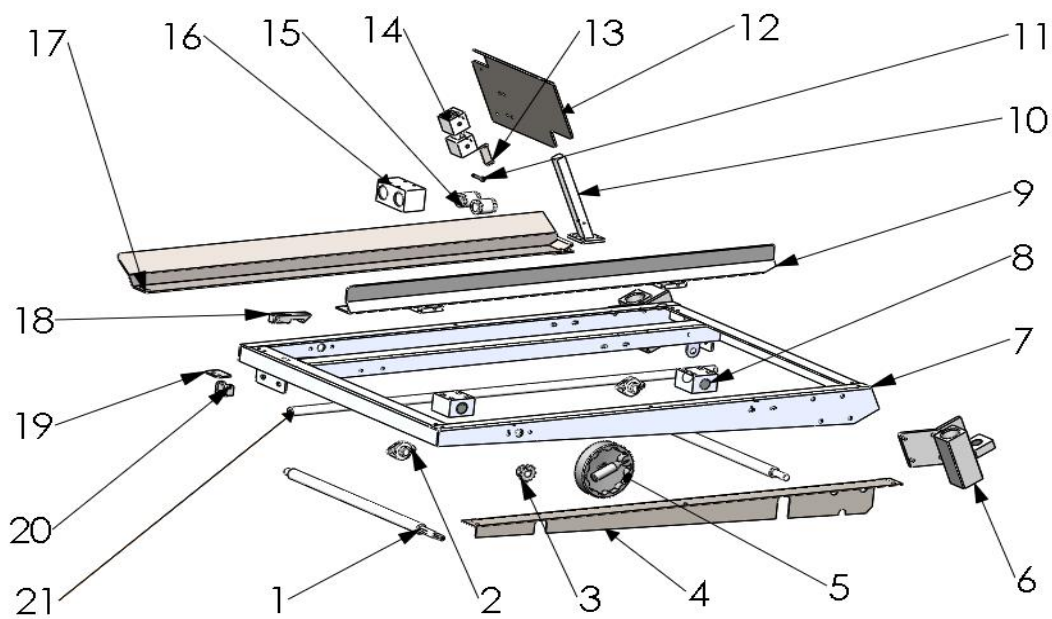

Figure 27
5.3 Trough mechanism, as shown in Figure 27 and Table 3.